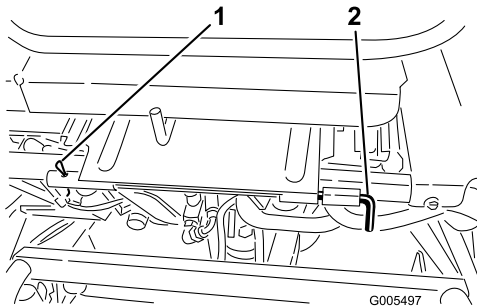

Figure 28
3. Lower the seat and remove the roll pin securing the seat-pivot rod to the frame (Figure 28).